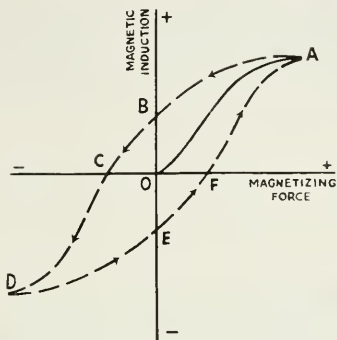
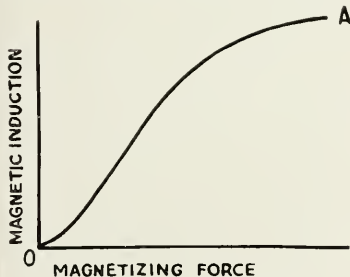

Fig. 2 Development of typical hysteresis loop by cyclically varying magnetic field.
Fig. 1 Magnetizing force and initial magnetic induction for a typical magnetic material.
In Fig. 1 we show a typical relation between the magnetizing force applied to a material and the resulting magnetic induction (magnetization). This curve shows what happens when you start with a completely de-magnetized material, and increase the magnetizing force progressively. Note that the curve levels off at the upper end as saturation is approached (point A). If we now decrease the magnetizing force from its peak value A back down to zero, the magnetic induction will fail to retrace the curve previously followed. Instead, it will decrease much more slowly, following the dotted line AB shown in Fig. 2. Even when the magnetizing force has dropped to zero, a certain amount of residual magnetization remains (point B). To remove this, it is necessary to apply a
magnetizing force of opposite polarity. The curve will then be as shown by the dotted line BC in Fig. 2. Then, if this negative magnetizing force is progressively increased, the curve will continue along dotted line CD, approaching negative saturation and returning along dotted line DEFA as the magnetizing force is reduced to zero and then increased positively again. This failure of the curve to retrace its original path is called hysteresis, and the dotted curve shown in Fig. 2 is a hysteresis loop, the magnetization curve which results when we increase and decrease the magnetizing force cyclically.
Actually, we have oversimplified the matter in Fig. 2, because we do not ordinarily get back exactly to the starting point (A) the first time around the loop. After thirty or forty cyclic variations the loop retraces itself exactly, and it is this which is ordinarily shown, rather than the first loop traced after the initial magnetization curve (line OA).